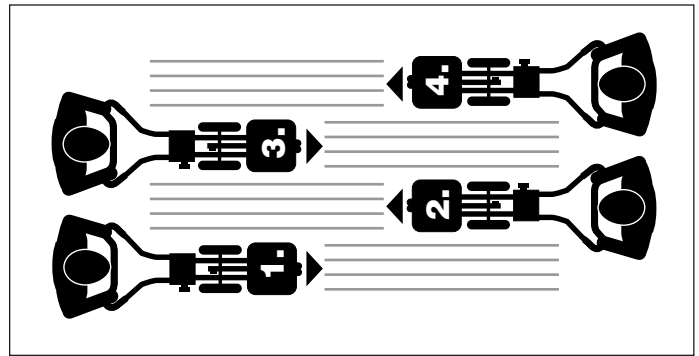
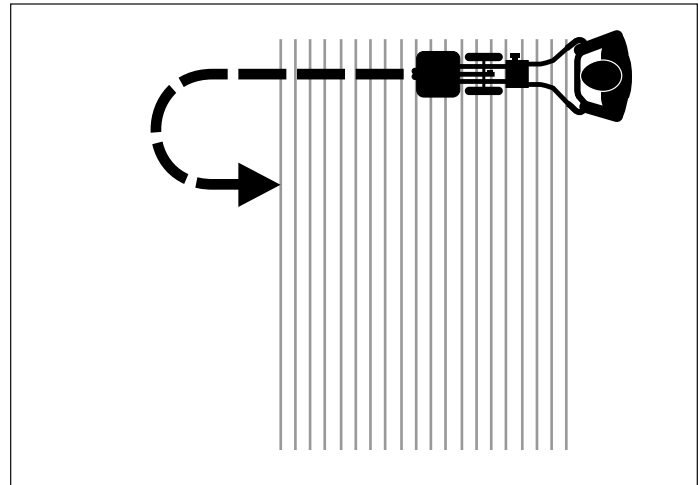

Figure 4
Figure 5
- Aerate the soil by making side-by-side passes (see Figure 4). For more thorough aeration, you may wish to make a second series of passes at a right angle to the first series of passes (see Figure 5).